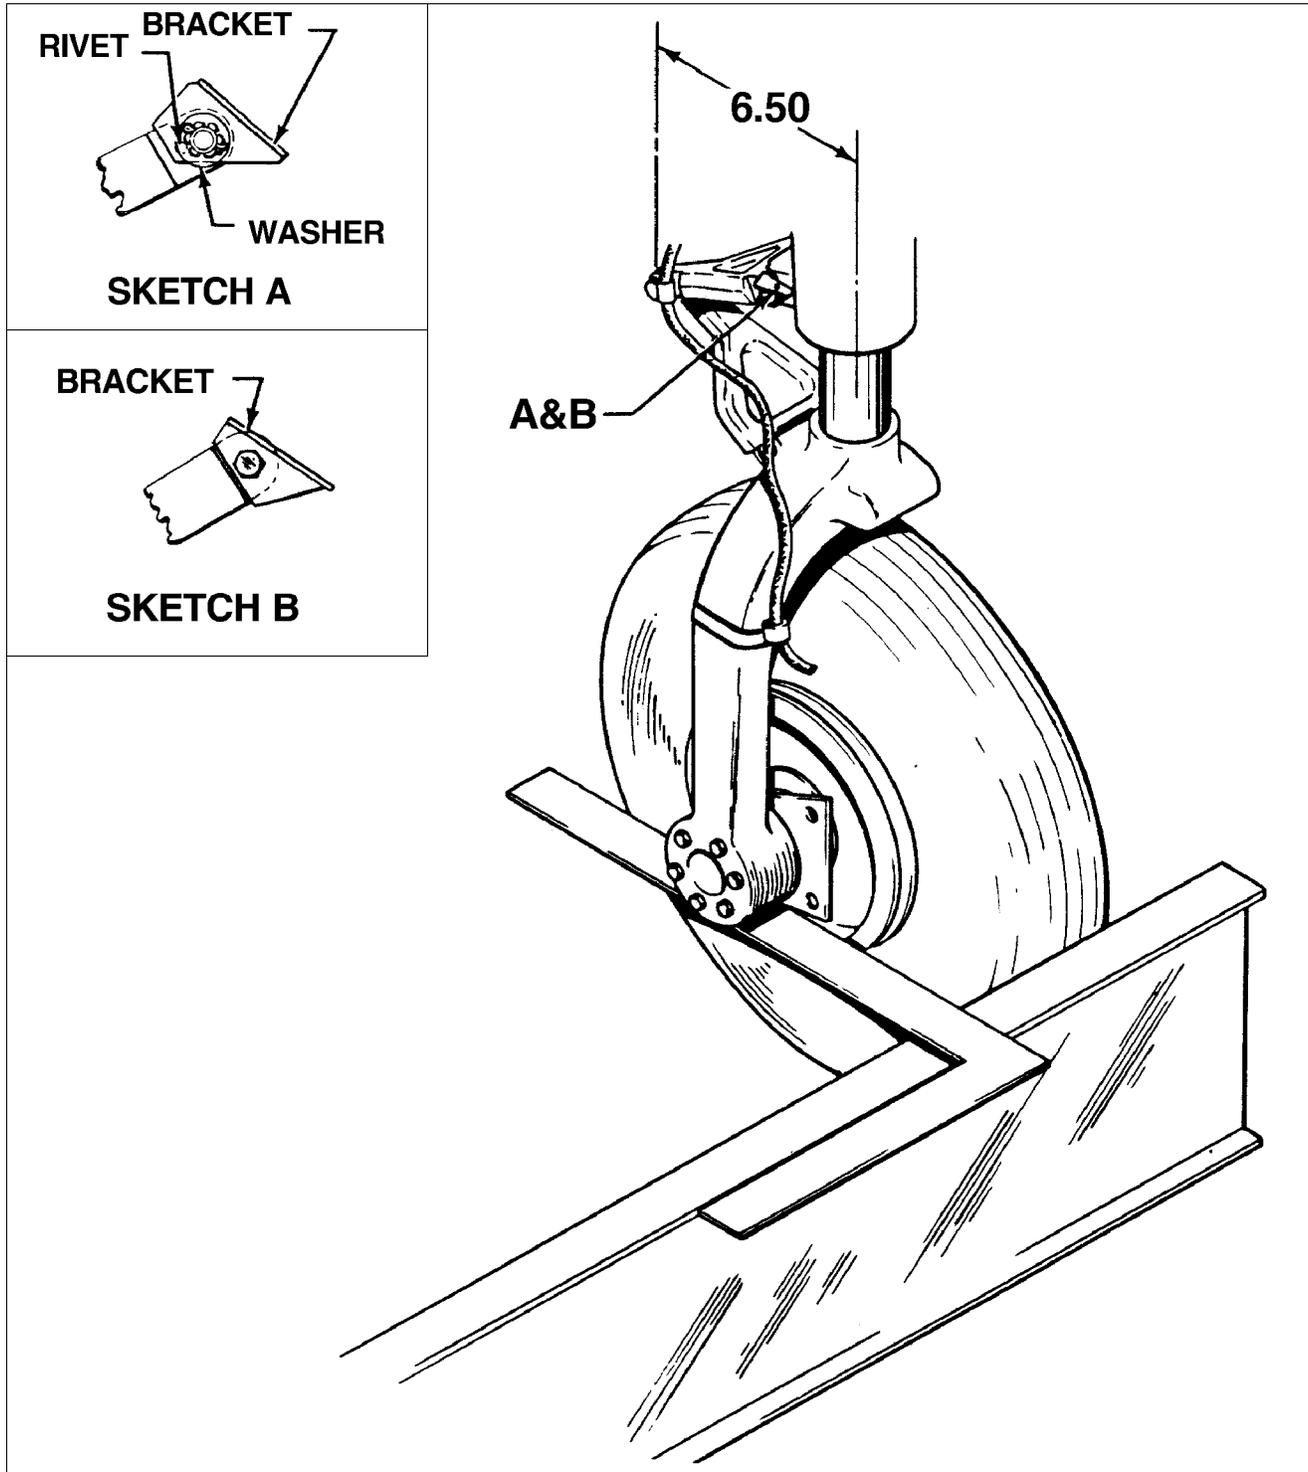

Figure 32-3. Aligning Main Gear
5. Alignment of Main Landing Gear (Refer to Figure 32-3)
- g. If a new link on top left main gear had to be installed or it had to be reversed during alignment check, it will be necessary to check gear safety switch (squat switch) bracket for engagement and locking in place. If large machine surface of link is inboard, bracket is mounted with small rivet hole next to link. (Refer to Sketch A, Figure 32-3.) This hole should be aligned with centerline of link and a .096 inch hole drilled .150 inch deep. Insert an MS20426AD3-3 rivet in hole. This locking rivet is held in place by the flat washer, castellated nut and cotter pin. If link has to be reversed, then bracket and bolt are also reversed. (Refer to Sketch B, Figure 32-3.)